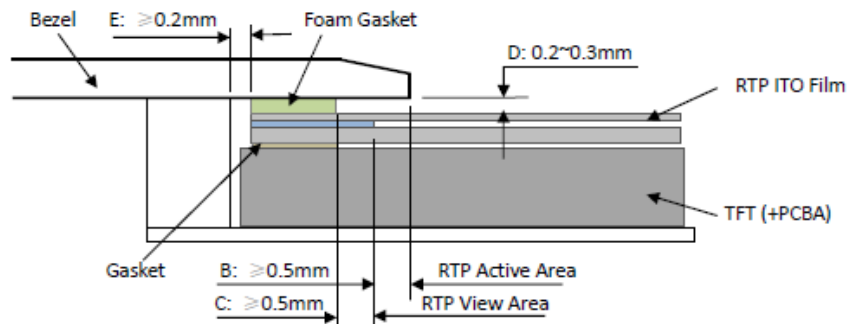

Figure 4
- It should bezel touching the RTP Active Area (A.A.) to prevent abnormal touch. It should left gap $D=0.2\sim 0.3\text{mm}$ in between. (Figure 4)
- Outer bezel design should take care about the area outside the A.A. Those areas contain circuit wires which is having different thickness. Touching those areas could deform the ITO film. As a result bezel the ITO film be damaged and shorten its lifetime. It is suggested to protect those areas with gasket (between the bezel and RTP). The suggested figures are $B\geq 0.50\text{mm}$; $C\geq 0.50\text{mm}$. (Figure 4)
- The bezel side wall should keep space $E=0.2\sim 0.3\text{mm}$ from the RTP. (Figure 4)
为避免面框直接压在动作区 (A. A.) 上造成误动作，面框与电阻触摸屏 (RTP) 之间应留有一定的空隙 $D=0.2\sim 0.3\text{mm}$ 之间。(附图 4)
设计面框时，要注意用面框保护触摸屏四周的非保证操作区域，因为布线区域在此处形成一台阶，在此区域附近操作时 ITO Film 变形较大，容易导致 ITO 损坏而降低寿命。为保护 RTP 和避免误操作，在 RTP 与面框之间垫缓冲物 (Gasket)，我们建议设计面框应覆盖动作区的边缘，面框边缘到 V. A. 区的距离 $B\geq 0.50\text{mm}$ ；垫圈内边缘到 V. A. 区的距离 $C\geq 0.50\text{mm}$ 。(附图 4)
在设计面框与 RTP 组装时，应考虑到面框内侧与 RTP 外侧的间距 $E\geq 0.2\text{mm}$ 。(附图 4)